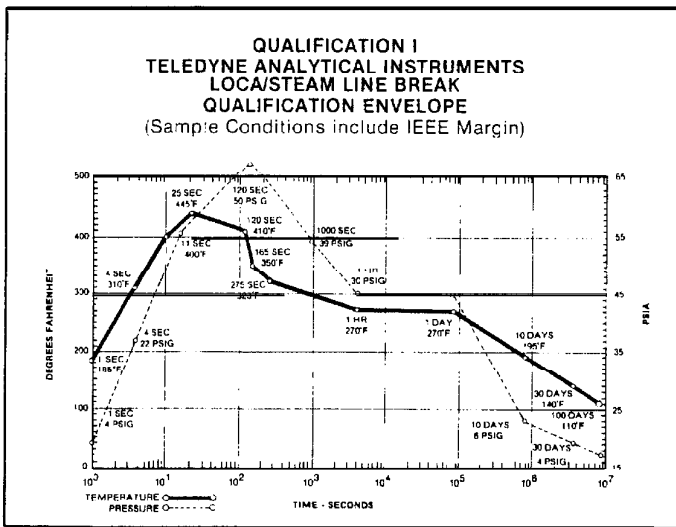
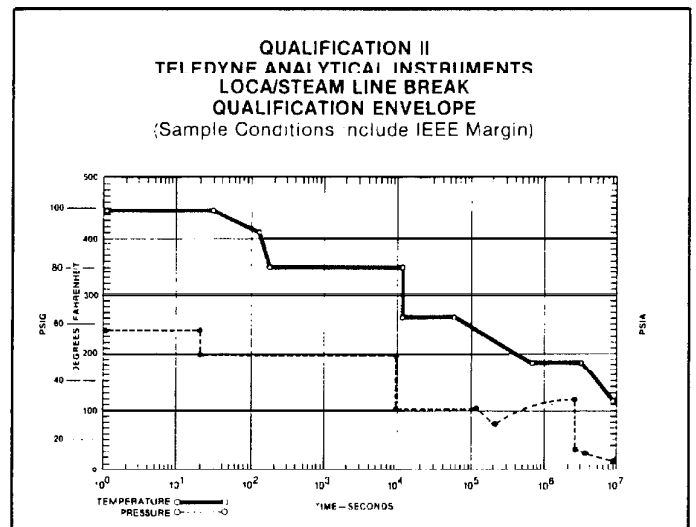

Figure 4.
Figure 6.
**General Qualification.** The Series 225CM is Class 1E safety-related equipment that is fully qualified for its intended service in nuclear power plants. Included in this qualification is a test envelope, with margins (see Figures 4 and 5), stringent enough to satisfy most applications and expandable to satisfy more severe radiation, temperature, pressure, and seismic qualification envelopes. Note also that subsequent testing has expanded the qualification envelope (see Figures 6 and 7).
1. Temperature: to 430° F (221° C) See Figures 4 and 6.
2. Pressure: to 70 psia. See Figures 4 and 6.
3. Relative Humidity: See Figures 4 and 6.